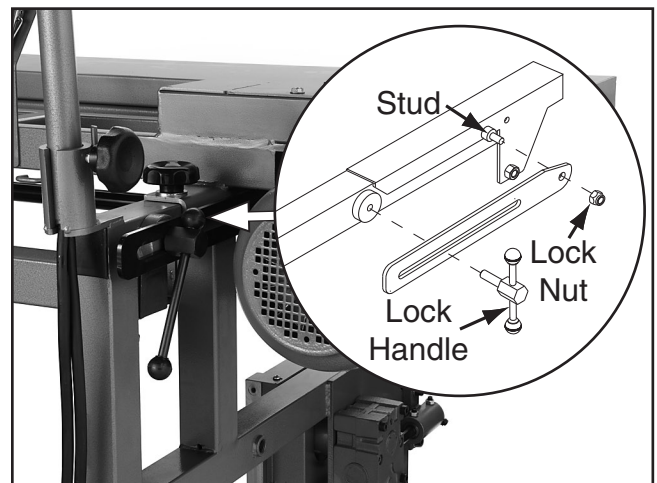

Figure 18. Lock bracket.
8. Assemble the lock bracket by placing the bracket over the stud and securing it with the 1/2"-13 lock nut, then inserting the lock handle through the bracket slot and into the threaded hole, as shown in **Figure 18**.